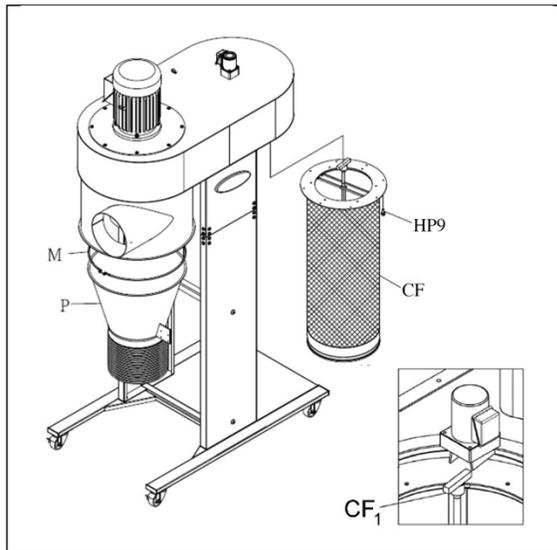

Figure 5-7
12. Assemble cone (P) to housing with clamp (M). See Figure 5-7. Position cone so that flanges face forward and are parallel to stand. Tighten screw on clamp.
13. Install canister filter (CF, Figure 5-7) to housing, aligning the rod finial (CF1) with the slot in the reduction motor platform.